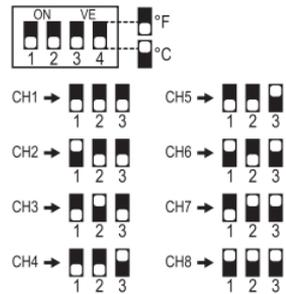

Figure 3
3. The WS-2000 and WS-5000 supports up to eight transmitters. To set each channel number (the default is Channel 1), change DIP switches 1, 2 and 3, as referenced in Figure 3.
4. To change the transmitter display units of measure (°F vs.°C), change DIP switch 4, as referenced in Figure 3.